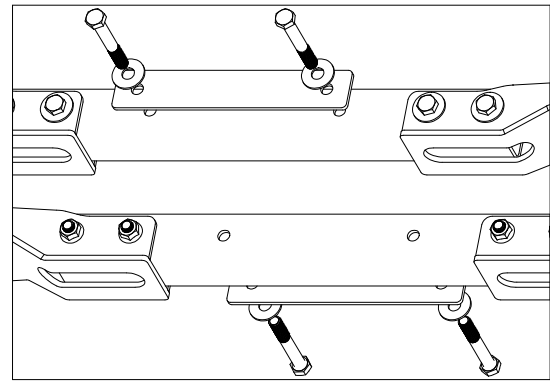

Figure D1: View of cross members.
1. **Prepare center mounting hardware.** Locate four 5/8" x 4-1/2" cap screws, 5/8" flat washers, and the two washer plates. Pass the flat washers onto the bolts and then pass two bolts into each washer plate. Pass the bolts into the cross members so that the bolt threads are sticking out into the area where the center will install, see Figure D1.